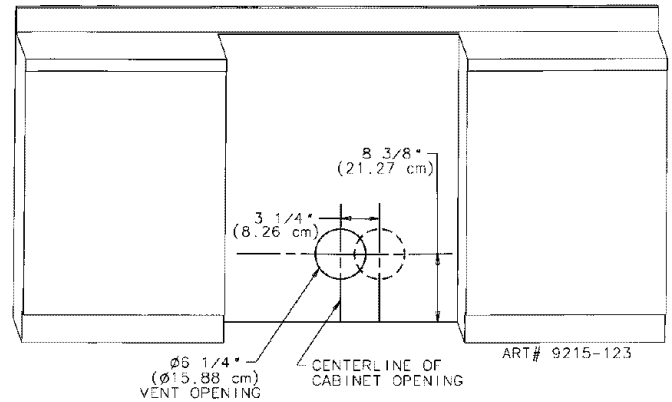

Figure 10
a. **Through the rear wall.** (See figure 10) Mark the centerline of the cabinet opening on the rear wall. The 6 1/4" vent opening must be located on a centerline 8 3/8" above the floor and within 3 1/4" to the right (when facing the cabinet opening) of the centerline of the cabinet opening as shown in figure 10.